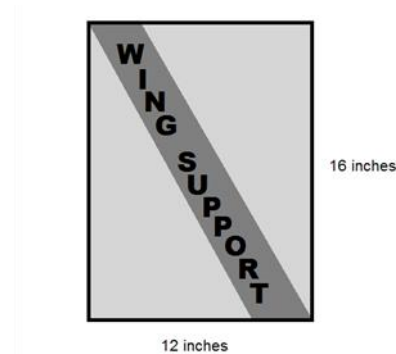

Figure 12
- C. The size of each **standoff and endplate** may not exceed 12x16 inches dimensionally in size per piece. Refer to Figure 12.